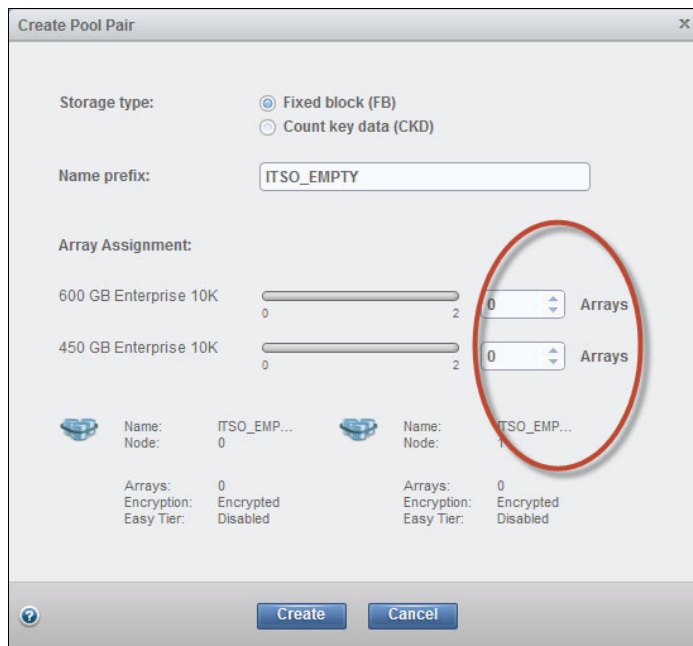

Figure 11-46 Create an empty pool pair with no assigned arrays
1. Create a pool pair, as shown in Figure 11-46. However, do not assign any arrays to the new pool pair.